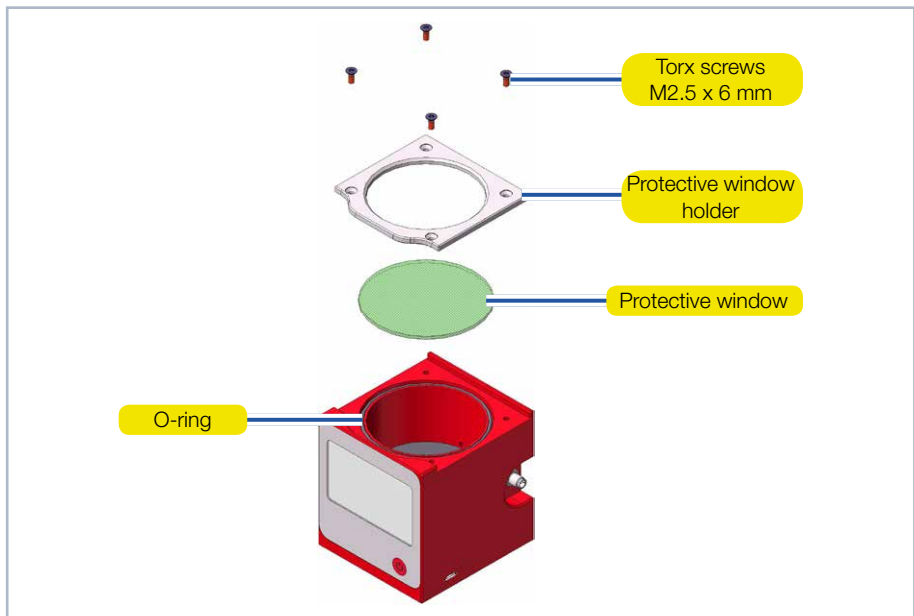

Fig. 16.1: Exchanging the protective window on the Cube
3. Place the device as shown in Fig. 16.1 on page 47 and carefully remove the protective window holder upwards.
6. Place the protective window holder according to Fig. 16.1 on page 47.